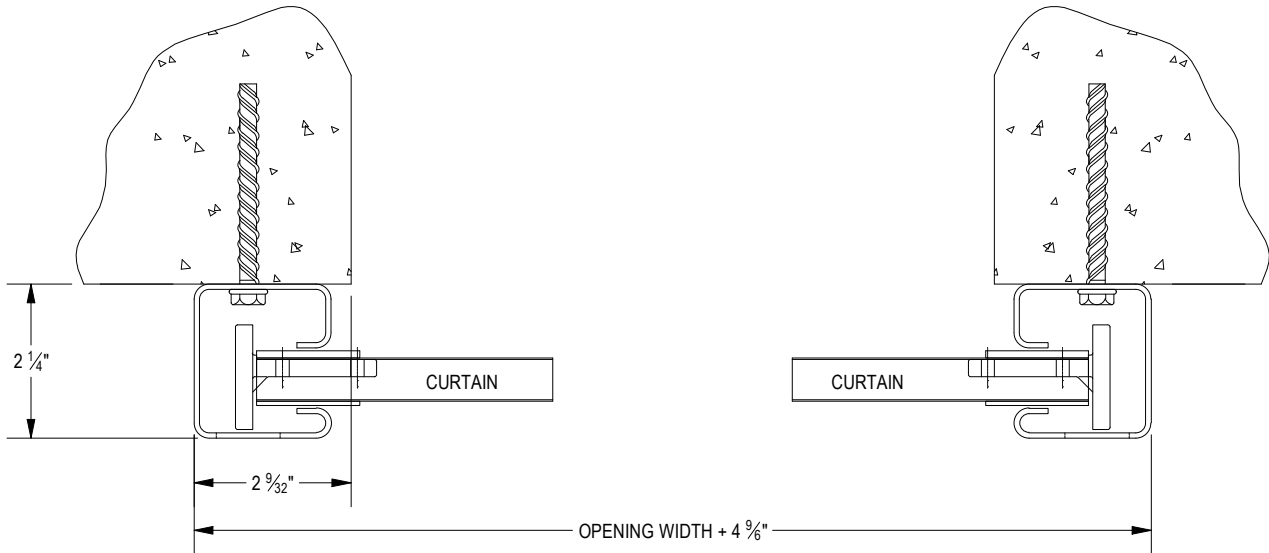

FIGURE 8: CONCRETE/FILLED CMU
- **MASONRY JAMBS:** $\frac{1}{4}$ " X 3" DEWALT SCREW BOLT +. See Page 9 Figure 8.